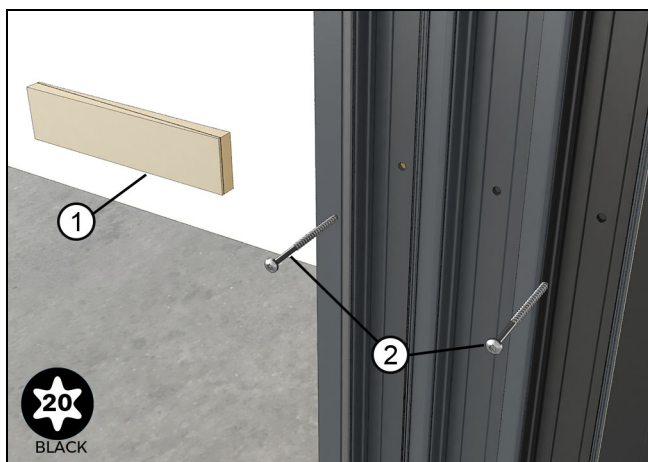

Figure 74
9. Complete fastening and shimming through additional fastener holes in the jamb. See Figure 74.